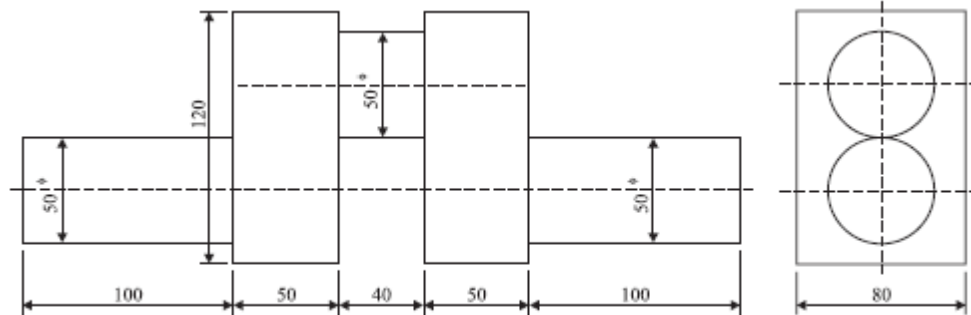

Fig. 5.9. Crank shaft.
- 9 (i) Analyze the cost of forging a crank shaft as shown in Fig. 5.9. The forging is to be made out of a bar stock of 50 mm f and following data is available: BT4